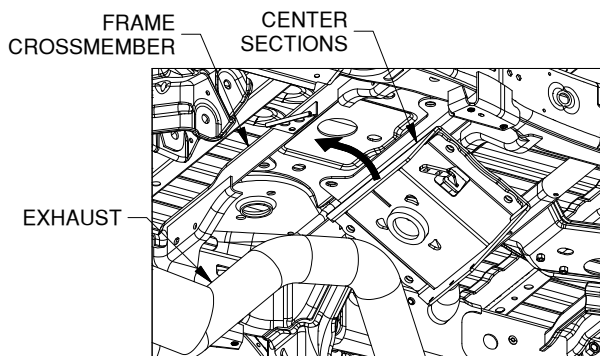

Figure B5: Looking up at the bed from forward of driver side tire.
3. **Install the center section.** With the latch pin mechanism on the drivers side, raise the center section into place as shown, see figure B5. In order to clear structures under the truck bed, the center will have to be lifted into place on an angle over the exhaust, then positioned directly under the frame cross member so that the raised portion of the center can be pushed straight up through the hole in the frame cross member, and through the hole in the plastic spacer block. Having assistance in the bed to guide the top of the center section is recommended. Line the 4 holes in the center section up with the frame holes and the holes in the threaded blocks. Thread a 5/8 flange head bolt into each hole.